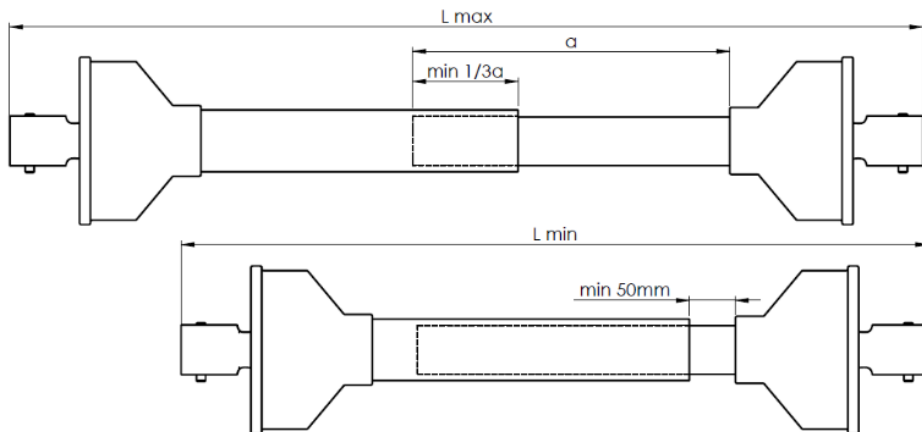

Fig. 18. Adjusting the length of the PTO shaft when the spreader is coupled with the tractor
- Make sure that the PTO shaft transmitting power from the tractor has a sufficient length in all possible configurations of the tractor in relation to the machine, when coupled (Figure 18);